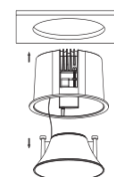

Fig: 2
- 2 Take out the Reflector, Put the lamp into the hole. (Fig: 2)